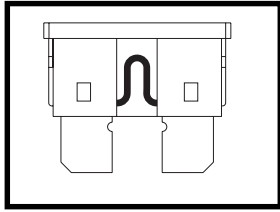

Figure 12. Working Fuse
2. Examine the fuse to be sure it is blown. **See figures 12 and 13.**